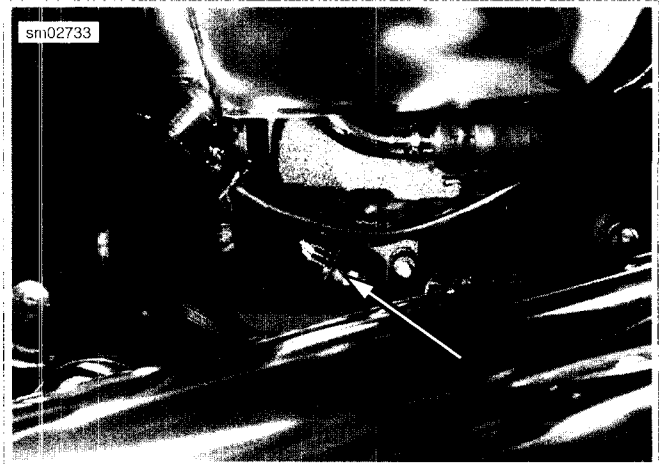

Figure 7-73. Vehicle Speed Sensor
4. See Figure 7-73. Disconnect 3-place vehicle speed sensor connector [65].
1. See Figure 7-73. Install sensor into transmission case using mounting bolt. Tighten bolt to 84-108 **in-lbs** (9.5-12.2 Nm).